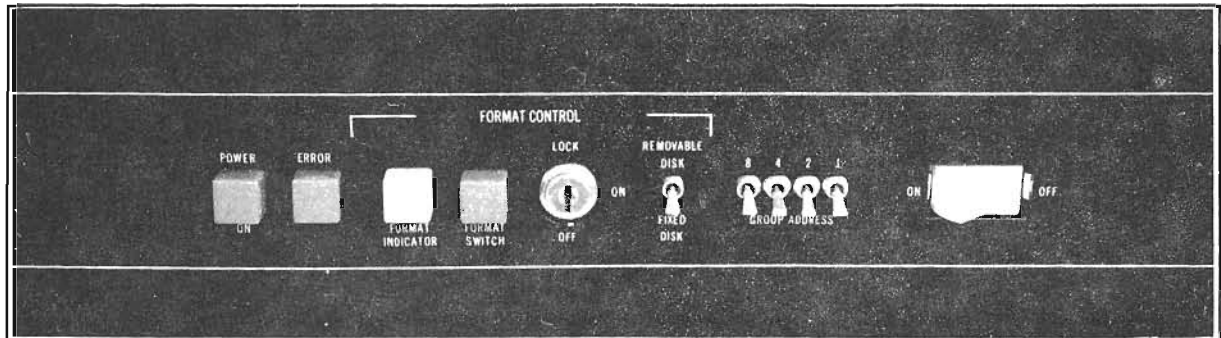

FIGURE 34
3.11.2 Lower Panel Lights and Switches (Figure 34)